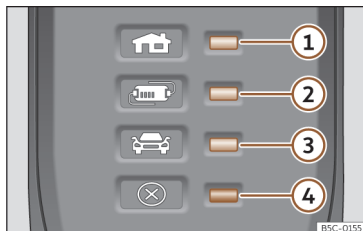

Fig. 62 On the charging cable for power sockets: Indicator lamps on the protection device.
>>> **Fig. 62:**
The electronic protection device >>> **Fig. 62** ensures that the charging connector does not receive current until it is plugged in to the vehicle's charging connector.
One or more control lamps >>> **Fig. 62** ①, ② or ③ light up green.
Display >>> Fig. 62	Meaning
①, ④ flashing	The housing connector has overheated.
②, ④ flashing	The protection device has overheated.
If the charging process continues with a lower current, both the operating indicator and the warning lamp >>> **Fig. 62** ④ flash red.
- If it disconnects again, or the charging current reduces and the cause does not seem to be exposure to an external heat source, make sure that the green control lamp is flashing >>> **Fig. 62**. Visit a specialised CUPRA dealer or any SEAT network dealer to check the charging cable. Get an establishment that specialises in electrical installations to check the infrastructure connection.
If the red warning light ④ flashes or turns on without one of the indicator lamps >>> **Fig. 62** ①, ② or ③ also turning on continuously on the status indicator, there is a fault.